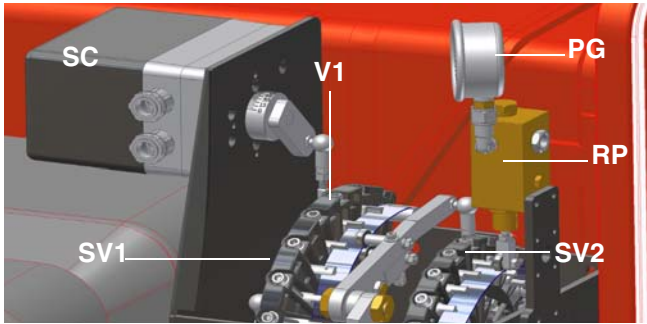

Fig. 29
- 10 in order to get the maximum oil flow rate, adjust the pressure (reading its value on the **PG** pressure gauge) without changing the air flow rate set during the gas operation adjustments (see previous paragraph): checking always the combustion parameters, the adjustment is to be performed by means of the **SV2** adjusting cam screw (see Fig. 29) when the cam has reached the high flame position.